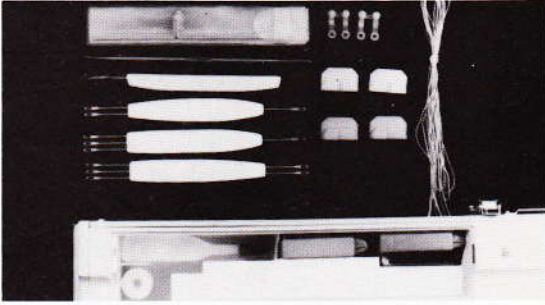

Fig. 236
- Pack the accessories in the box as shown in fig. 236.